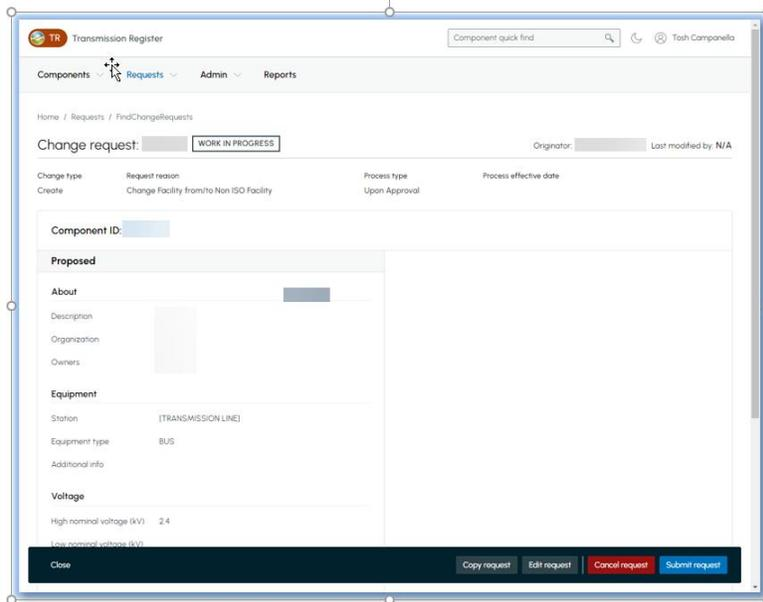

Figure 10 Change Request Work In Progress
- 15) Press the Submit button and the screen in Figure 10 loads. The TR Admin then reviews and notifies the PTO Admin of approval or rejection of the Change Request via an email.